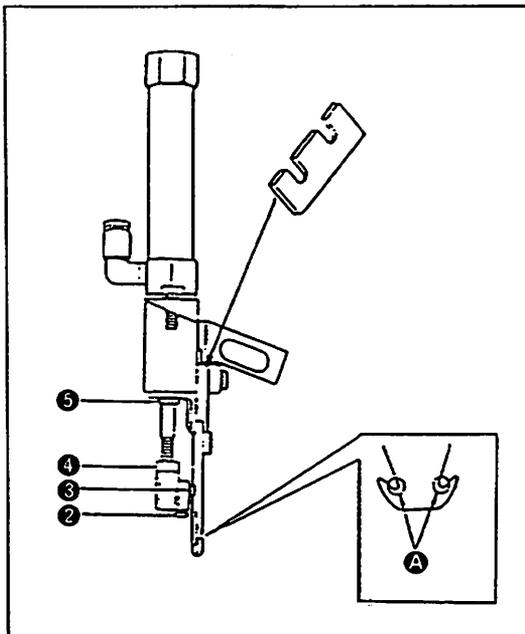

Fig. 90
1. Remove screw ①, and remove the needle thread trimming knife unit.
2. Loosen screw ②, and pull out pin ③. (As the pin has a spiral ridge, turn the pin to pull out.)
At this time, press the unchamfered face of portion ④ (Fig. 90) against the counter knife.